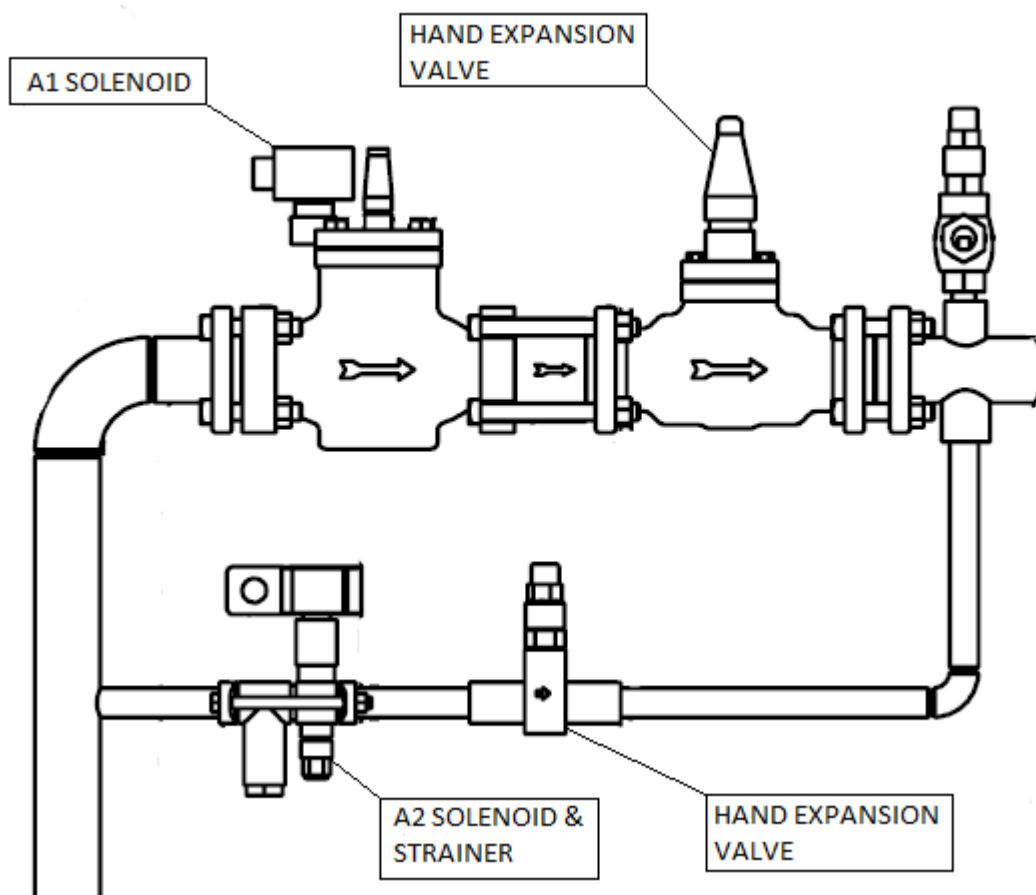

Figure 9-8
The **Liquid Feed Solenoid Valve (20)**, Figure 9-8, is opened and closed during the freezer cycle by the liquid level controller in order to maintain the proper freezer refrigerant level. It is closed when the machine is off to prevent liquid flow from the receiver to the freezer.